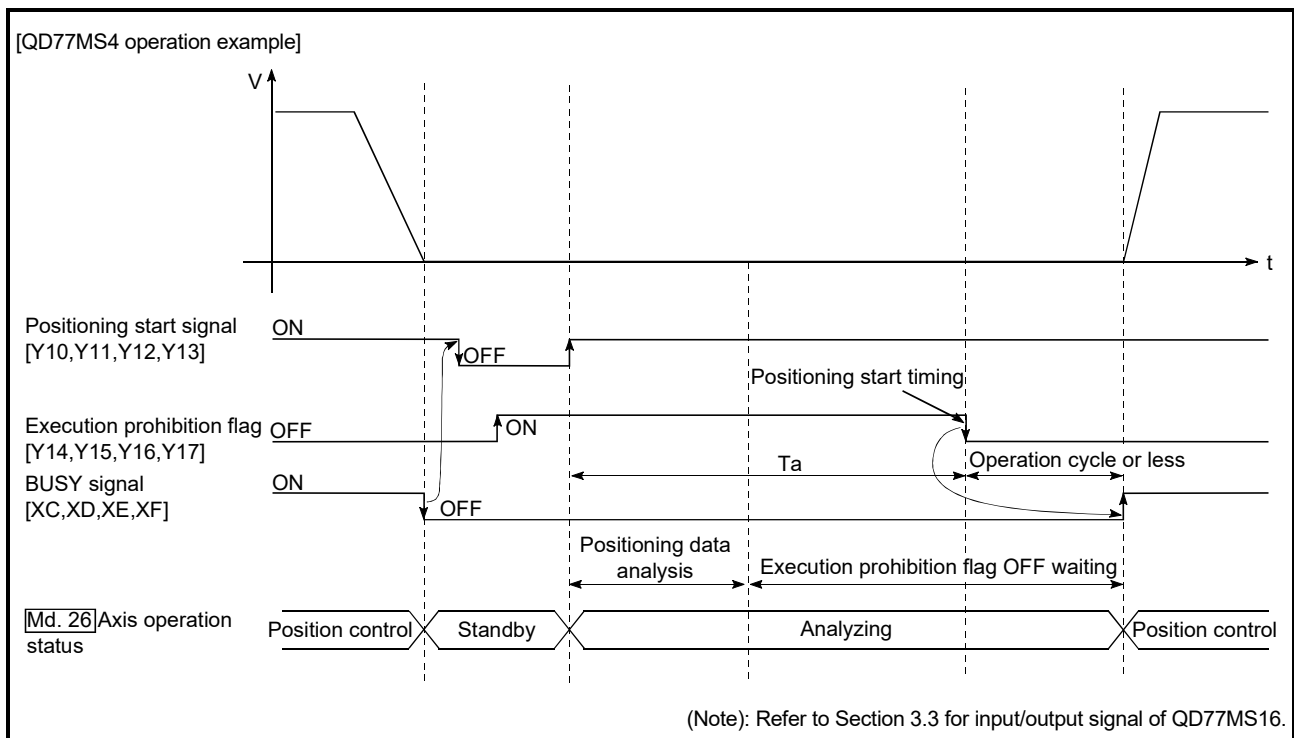

Fig. 13.46 Operations of pre-reading start function
The pre-reading start function is performed by turning ON the positioning start signal with the execution prohibition flag ON, or by executing the dedicated instruction (ZP.PSTR1, ZP.PSTR2, ZP.PSTR3, and ZP.PSTR4). However, if positioning is started with the execution prohibition flag ON, the positioning data is analyzed but servo start is not provided. While the execution prohibition flag is ON, "[Md.26] Axis operation status" remains unchanged from "5: Analyzing". The servo starts within operation cycle after the execution prohibition flag has turned OFF, and "[Md.26] Axis operation status" changes to the status (e.g. position control, speed control) that matches the control method. (Refer to Fig.13.46)
- (1) The time required to analyze the positioning data is up to 0.88ms (QD77MS2/QD77MS4)/3.55ms(QD77MS16).
- (2) After positioning data analysis, the system is put in an execution prohibition flag OFF waiting status. Any change made to the positioning data in the execution prohibition flag OFF waiting status is not reflected on the positioning data. Change the positioning data before turning ON the positioning start signal.
- (3) The pre-reading start function is invalid if the execution prohibition flag is turned OFF between when the positioning start signal has turned ON and when positioning data analysis is completed ( $T_a < \text{start time}$ ,  $T_a$ : Refer to Fig. 13.46).
- (4) The data No. which can be executed positioning start using "[Cd.3] Positioning start No." with the pre-reading start function are No. 1 to 600 only. Performing the pre-reading start function at the setting of No. 7000 to 7004 or 9001 to 9004 will result in the error "Outside start No. range" (error code: 543).
- (5) Always turn ON the execution prohibition flag at the same time or before turning ON the positioning start signal. Pre-reading may not be started if the execution prohibition flag is turned ON during  $T_a$  after the positioning start signal is turned ON. The pre-reading start function is invalid if the execution prohibition flag is turned ON after positioning start with the execution prohibition flag OFF. (It is made valid at the next positioning start.)